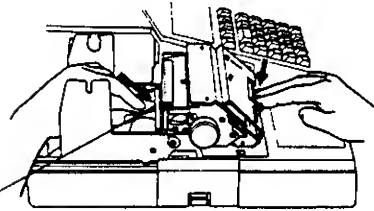

Fig. 9
5. Insert the paper end into the Journal Inlet, feed the paper in while pressing down the Free Lever (or feed the paper in while pressing the [JF] key). (Fig. 9)